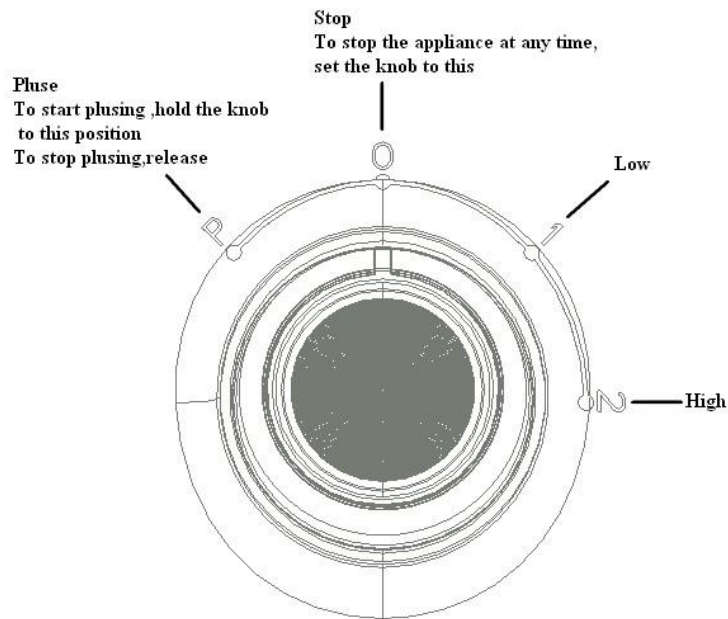

Fig. 2
5. Ensure the **Speed Selector** to “0” Position, then plug into power outlet and set **Speed Selector** to your desired setting. You can set **Speed Selector** to the “P” position if want to accelerate the process of blending. The detailed information is shown in below fig. 2